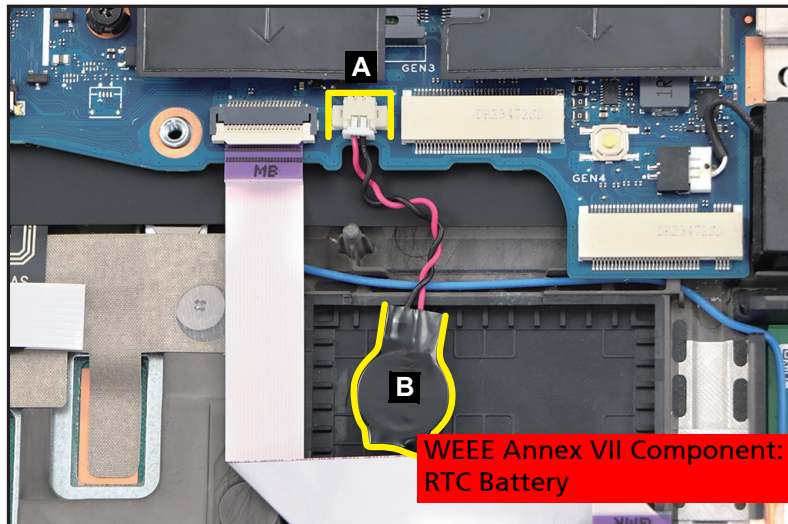

Figure 1-53. RTC Battery Removal
1. Disconnect the RTC battery cable from the mainboard connector (A) (Figure 1-53).
2. Using plastic tweezers, carefully pry to detach the adhesive tape underneath the RTC battery (B) (Figure 1-53). Then remove the RTC battery.